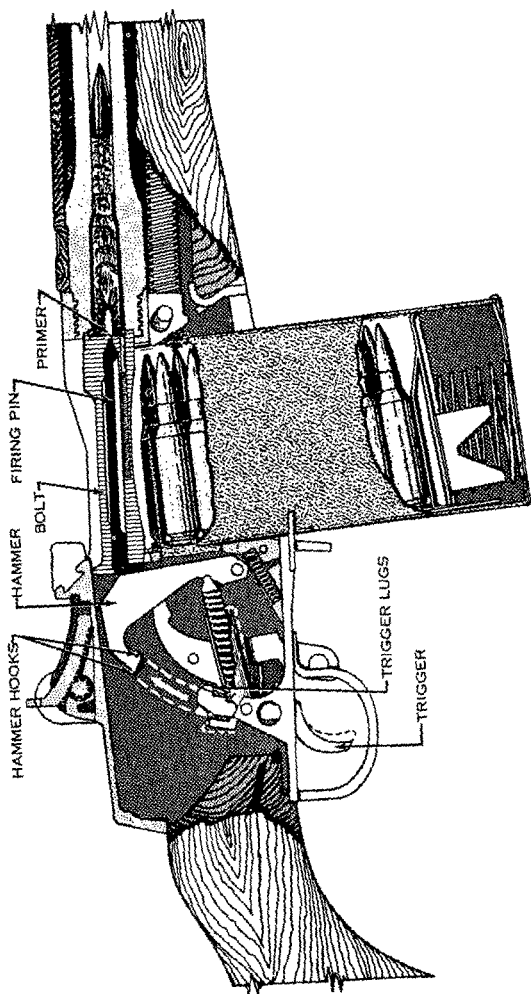

Figure 40. Firing.
- (4) *Firing.* Firing occurs when the firing pin strikes the primer. When the trigger is pressed, the trigger lugs are disengaged from the hammer hooks and the hammer is released. The hammer moves forward under pressure of the hammer spring and strikes the tang of the firing pin, driving the firing pin against the primer, activating it and firing the round (fig. 40).
- (5) *Unlocking.* Unlocking occurs after the firing of the round. As the bullet is forced through the barrel by the expanding gases, a small amount of gas enters through the gas port into the hollow gas piston and the inside of the gas cylinder plug. The gas inside the piston and plug expands and, when it builds up enough pressure to overcome the tension of the operating rod spring, the piston starts its rearward movement, driving the operating rod and bolt with it. When the piston has traveled slightly less than 5 thirty-seconds of an inch,